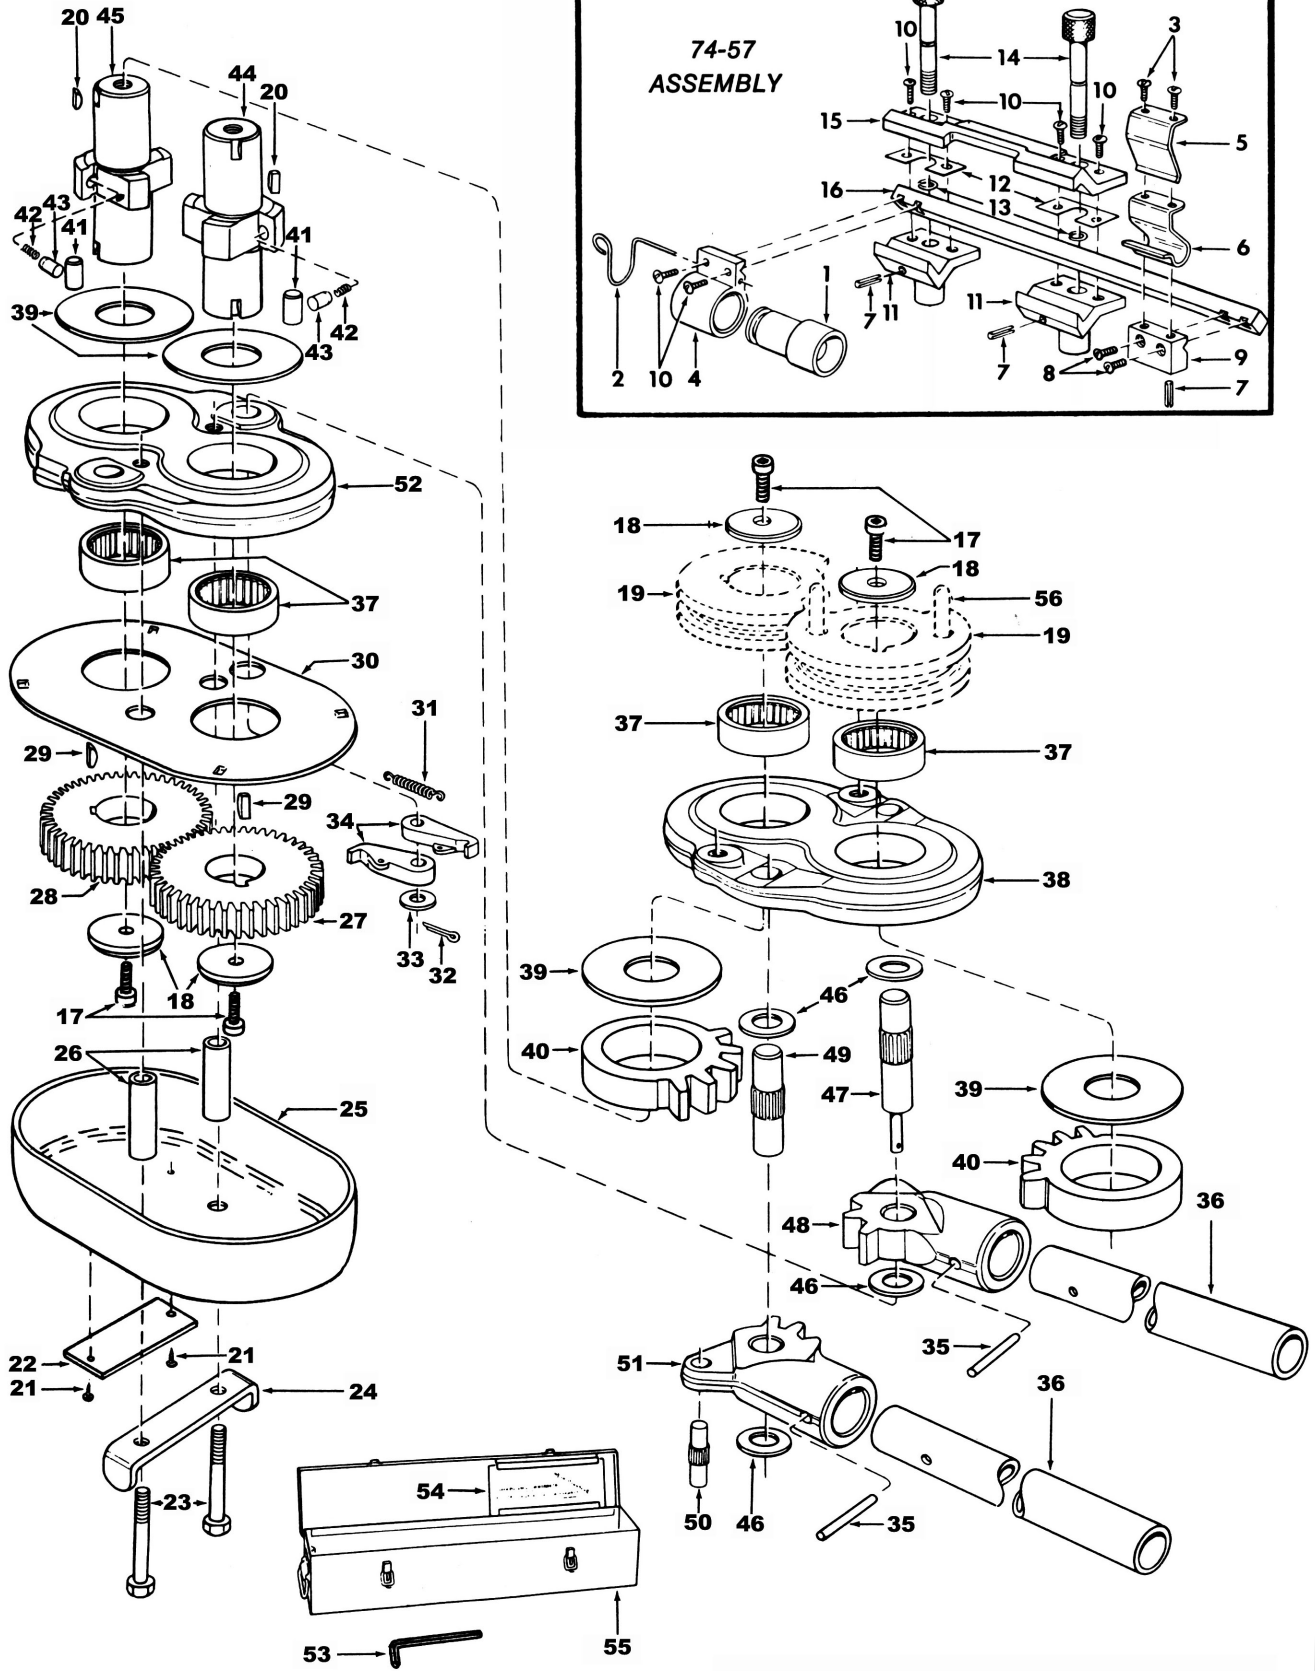

Figure I-12.
The exploded assembly drawing, Figure I-12, shows the individual parts of the Type I Swaging Machine and indicates their relative positions when assembled. Use this drawing as a guide for disassembling the machine.
Replace all parts showing wear or damage. It is advisable to inspect highly stressed parts by the magnetic-particle (MAGNAFLUX®) inspection method. This is particularly true of the clutch rings (40, Figure I-12).
Refer to Figure I-12 as a guide for location of parts and proper order of re-assembly. Special attention should be given to the following items: Pack all bearings (37) with grease and press them into their respective recesses, using care to avoid damage to bearing shells. Bearings can be more easily installed if bearing recesses are wiped lightly with oil before installation. Be sure to use an arbor press with the proper size arbor to avoid damage to bearings or housings in which they are located.
When installing gears (27 and 38, Figure I-12) it will be necessary to mesh the gears to provide proper timing of the two roll shafts (44 and 45). This is accomplished by positioning the shafts so that the two keys will be